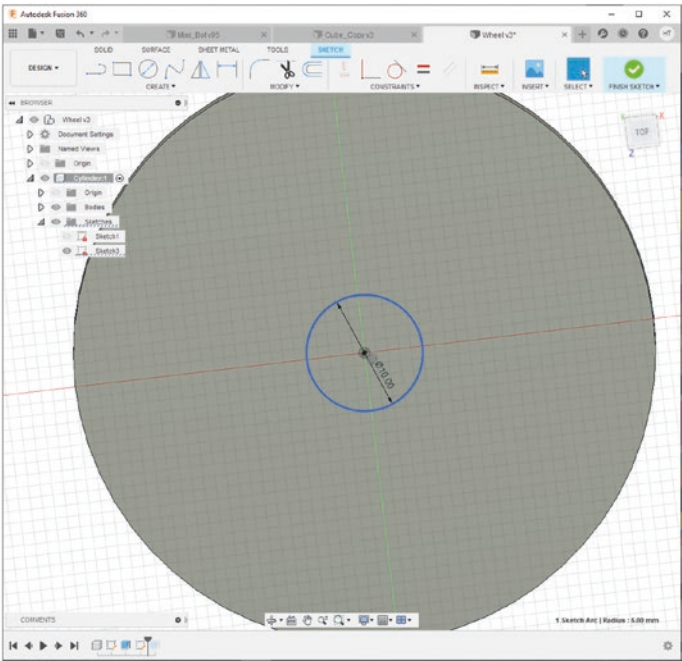

Figure 8-12. Create a 10mm circle on the cylinder
3. Create a new sketch and make a 10mm circle around the center point of the top of the cylinder. See Figure 8-12.